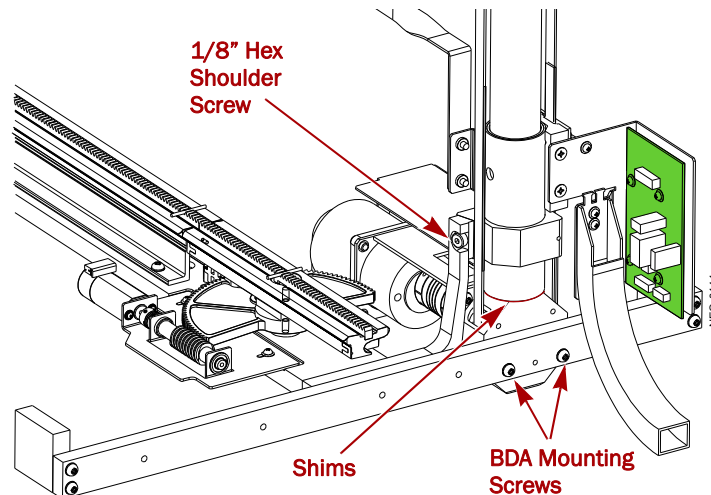

Figure 3-6: Rear View of Rear BDA and Track Assembly
4. Detach the **track assembly bracket** from the BDA (Figure 3-6).